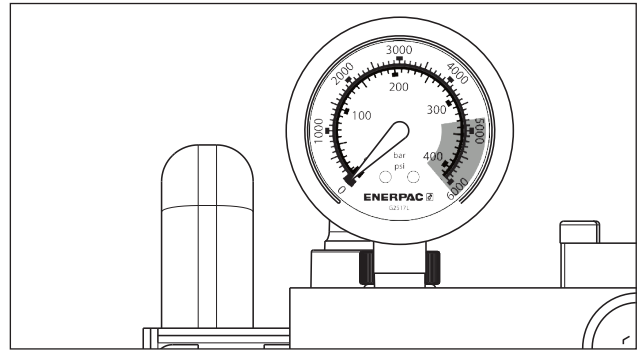

Figure 11 - Pump Hydraulic Pressure Gauge
- Check that the pump hydraulic pressure gauge indicates zero (0) psi/bar. See Figure 11.
- Verify that other hydraulic pressure gauges in the system (if present) also indicate zero (0) psi/bar.